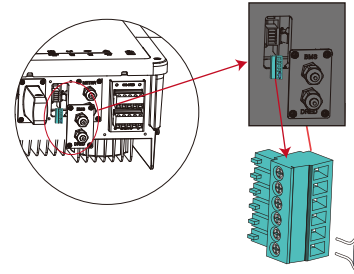

Figure 2.5.1-2
1. Plug out the 6-pin terminal and dismantle the resistor on it (Figure 2.5.1-2).